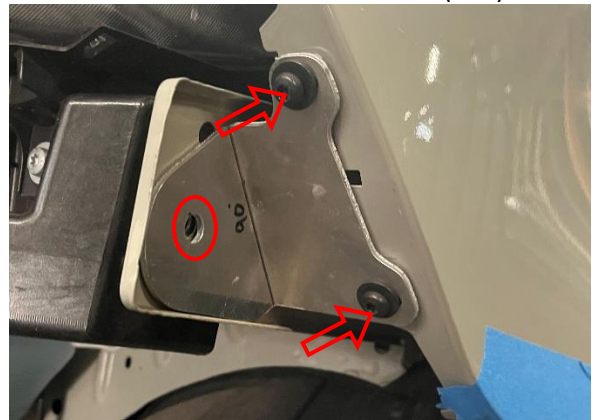

Figure 25: Fender Support Bracket Installation (Passenger's Side Shown)
25. Install both passenger side (labelled 'PS') and driver side (labelled 'DS') fender brackets into position. Reference Figure 25.